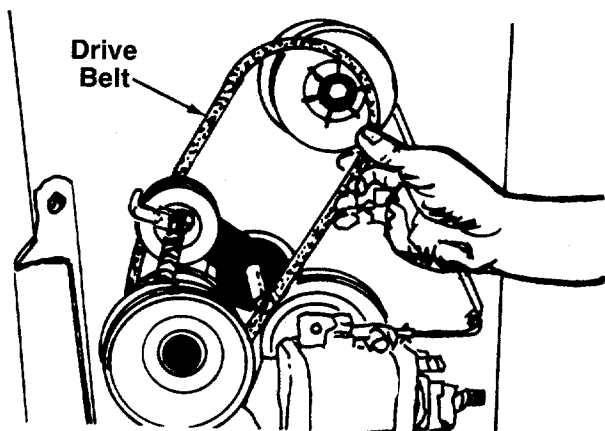

FIGURE 22.
- Remove and replace the "V"-belt. See figure 22.